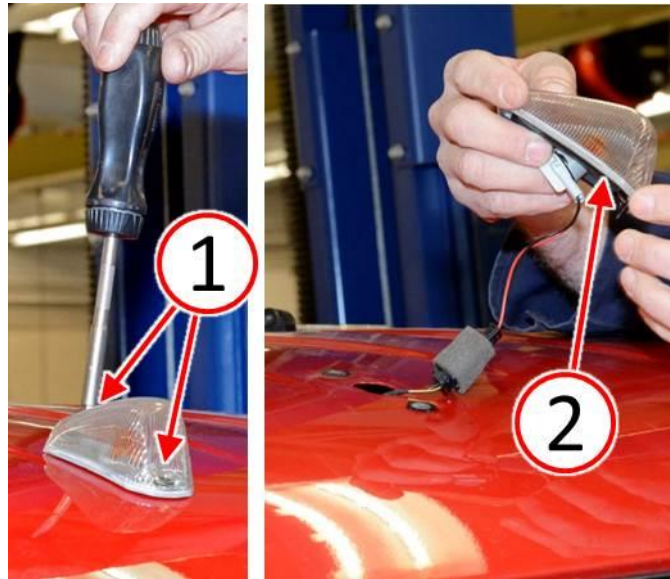

Fig. 3 Remove Roof Clearance Lamp
1. Remove the screws (1) from the roof clearance lamp (Fig. 3).
2. Remove the roof clearance lamp (2) from the vehicle (Fig. 3).